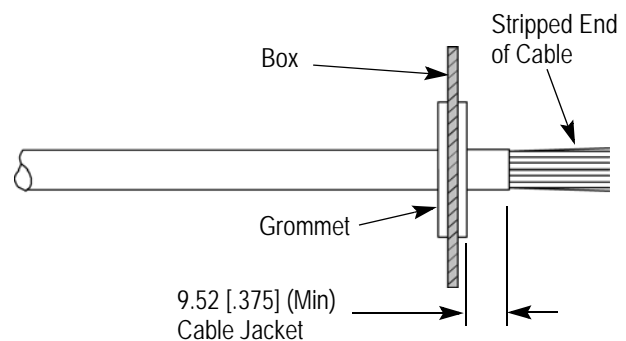

Figure 6
3. Feed the stripped end of the cable through the knockout opening until the grommet is seated on the opening. Fit the grommet into the opening until the grommet is secure. See Figure 6.